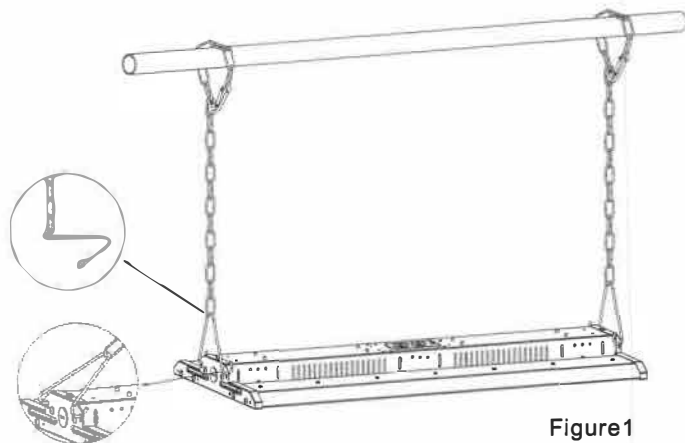

Figure1
1. Securely connect the chain to the fixture. (Figure 1)
2. Attach the chain to the rail, adjust the chain length to meet your requirements. (Figure 1)